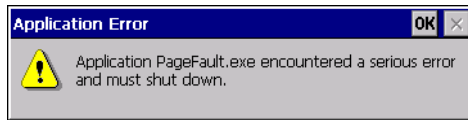
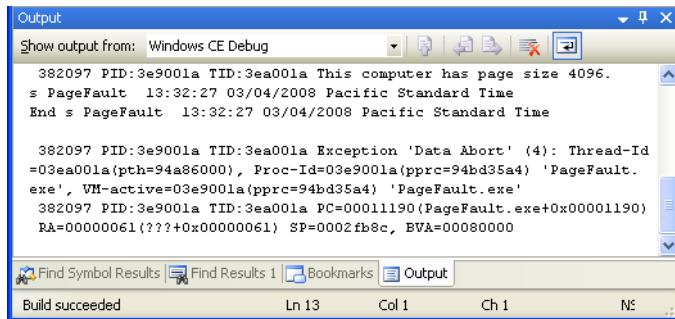

Figure 3-5 An unhandled page fault exception from a user's perspective
Figure 3-6 An unhandled page fault exception's debug output over KITL in Visual Studio 2005
2. Try to access a memory page. This raises an exception because you cannot read from or write to a non-committed page. This illegal operation results in a page fault exception. Figure 3-5 and Figure 3-6 show the outcome of an unhandled page fault in an application called `PageFault.exe`.